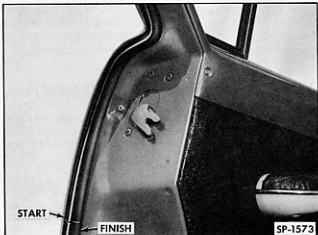

Fig. 40—Weatherseal Installation on Rear Door Lock Pillar
1. Start the installation of the seal at the rear door lock pillar approximately 8 inches below the lock (Fig. 40) and route the seal upward over the top